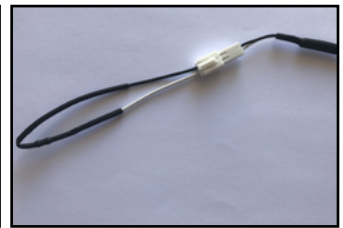

Figure 37 - Installed Resistor
3. Add a resistor to the cascade communication cable of the last unit. See Figure 37.